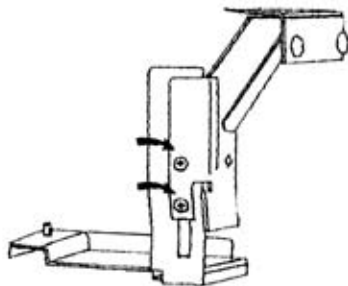

Figure 2:
The bracket is assembled in its most compact configuration. If the flash rotating arm (5) interferes when you attach your camera to the bracket, the upright arm must be raised to its highest position. Locate and slightly loosen the two Phillips-head screws on the upright arm (2) of the Strobflip (Figure 2). Raise the arm to its highest position and retighten the screws. Do this before installing a flash.